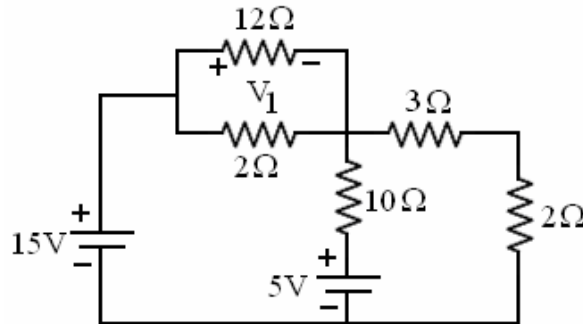

Figure 1
b) Find V_1 and V_2 in the below circuit (shown in Figure 1). [7+8]